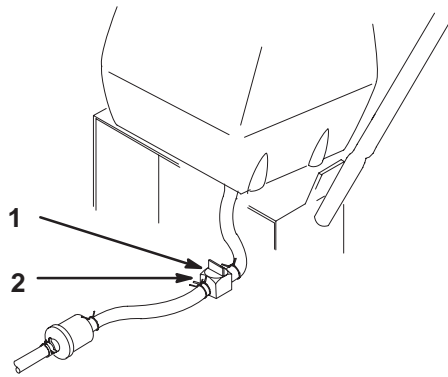

Figure 37
2. Close fuel shut-off valve at fuel tank (Fig. 37).
3. Squeeze the ends of the hose clamp together and slide it up the fuel line away from valve (Fig. 37).
4. Pull the fuel line off the valve (Fig. 37). Open fuel shut-off valve and allow gasoline to drain into a gas can or drain pan.
3. Close fuel shut-off valve at fuel tank (Fig. 37).
7. Open fuel shut-off valve at fuel tank (Fig. 37).